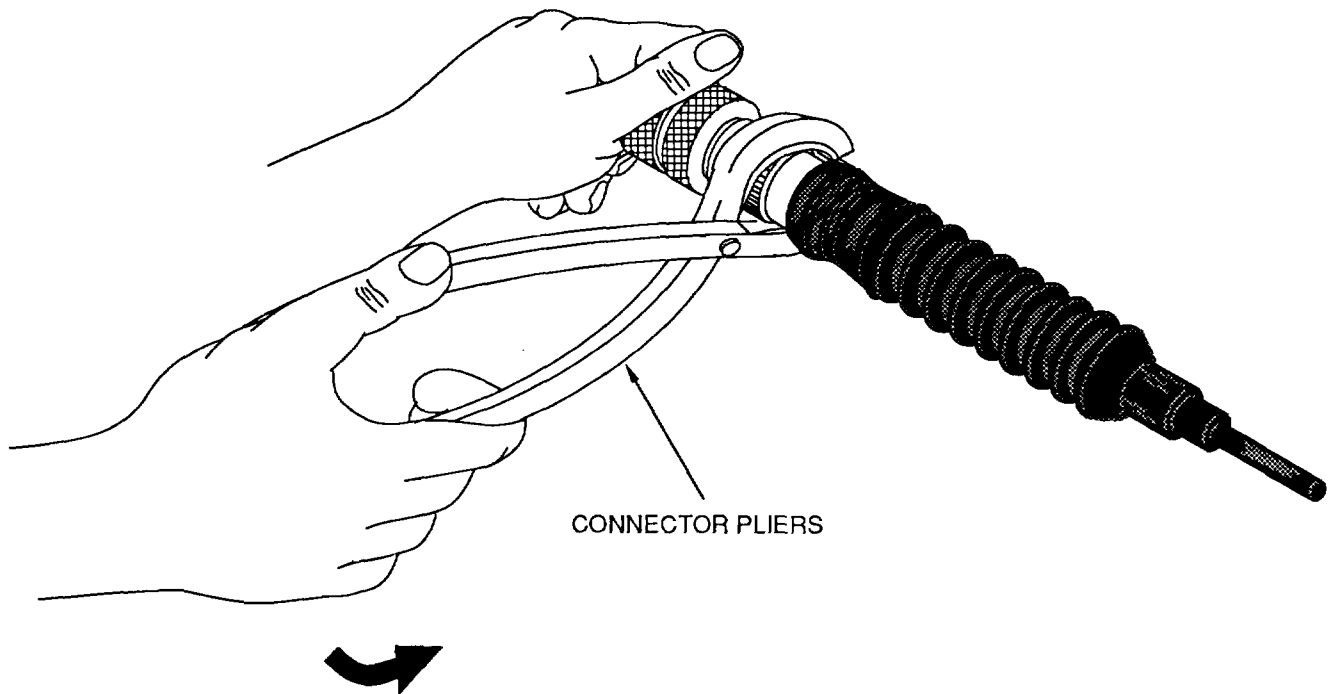

Figure 8. Removing Coupling Ring
b. Using connector pliers with plastic jaws, turn coupling ring counterclockwise (Figure 8).